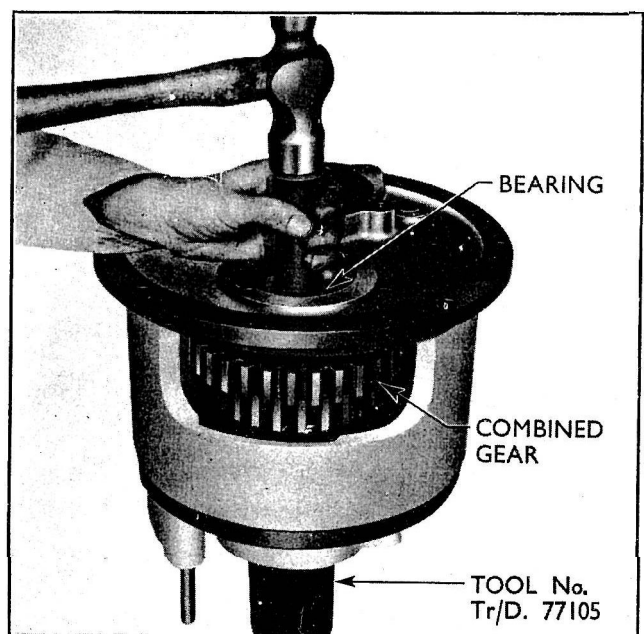

Fig. 162
- 8 Remove the end plate (four bolts) and locate the hollow tool (Tr/D 77105) to the dog gear and the drive shaft into the hollow portion of the tool. (See Fig. 162.) Move the dog gear along the splines to facilitate lifting out the primary lower shaft and power take-off gear. (The dog gear is left in the position in the selector fork.) Remove the shaft.